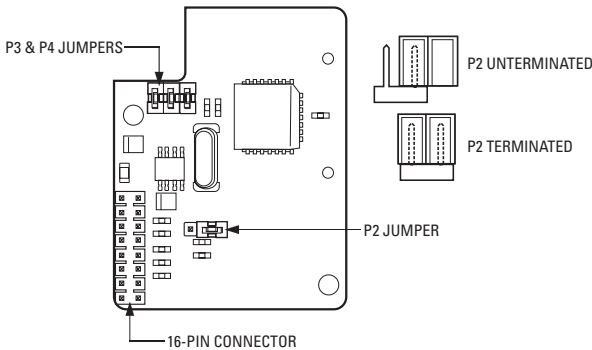

Figure 6. TXB-V Termination and Baud Rate (Bottom View)
4. Set the P2 jumper on the TXB-V to the proper termination setting (refer to Figure 6). Note the following: